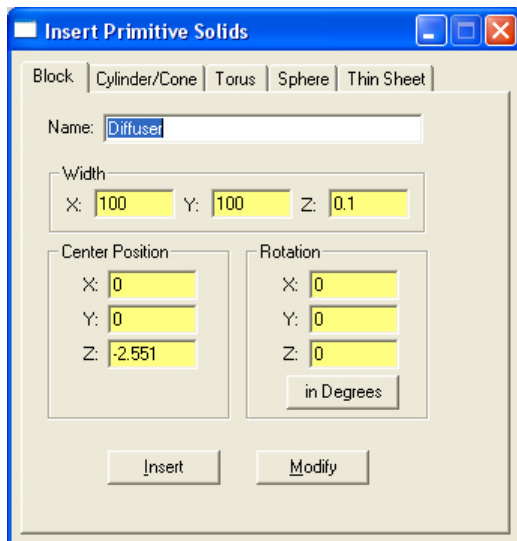

Figure 13. Parameters to Insert the Diffuser.
2. Enter the values as shown in Fig. 13,